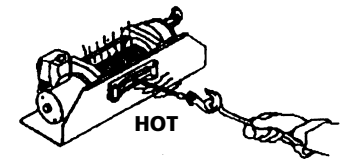

Figure 6
**⚠ WARNING** *The drum and wire rope will get very hot (Figure 6).*